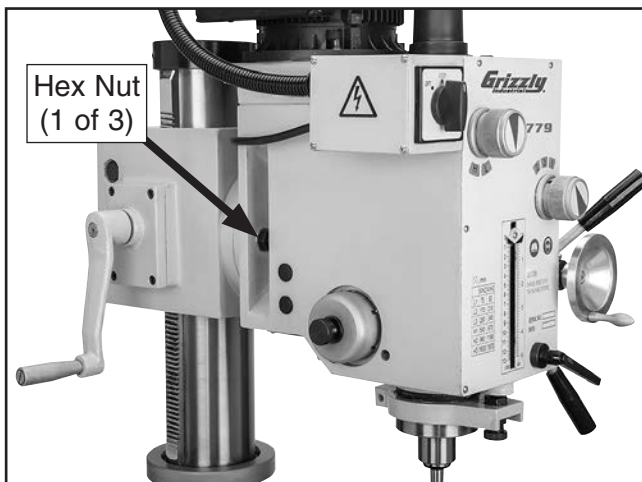

Figure 17. Location of tilt-lock hex nuts (one on each side of head).
3. Loosen three tilt-lock hex nuts (see **Figures 17–16**).